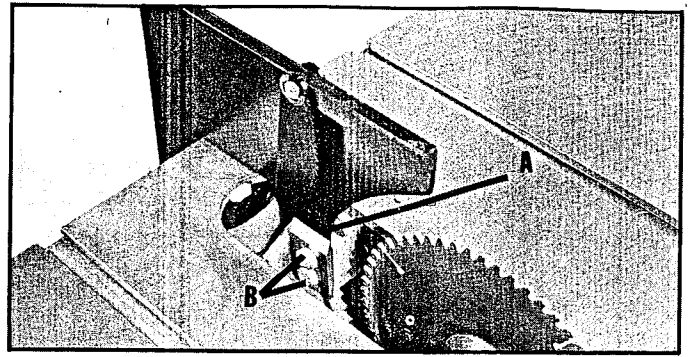

Fig. 13
1. Loosen two bolts (B) Fig. 13, and insert splitter (A) between the flange and block, as shown. NOTE: Allow  $3/16$ " parallel gap between the bottom of the splitter and the table surface and securely tighten bolts (B).